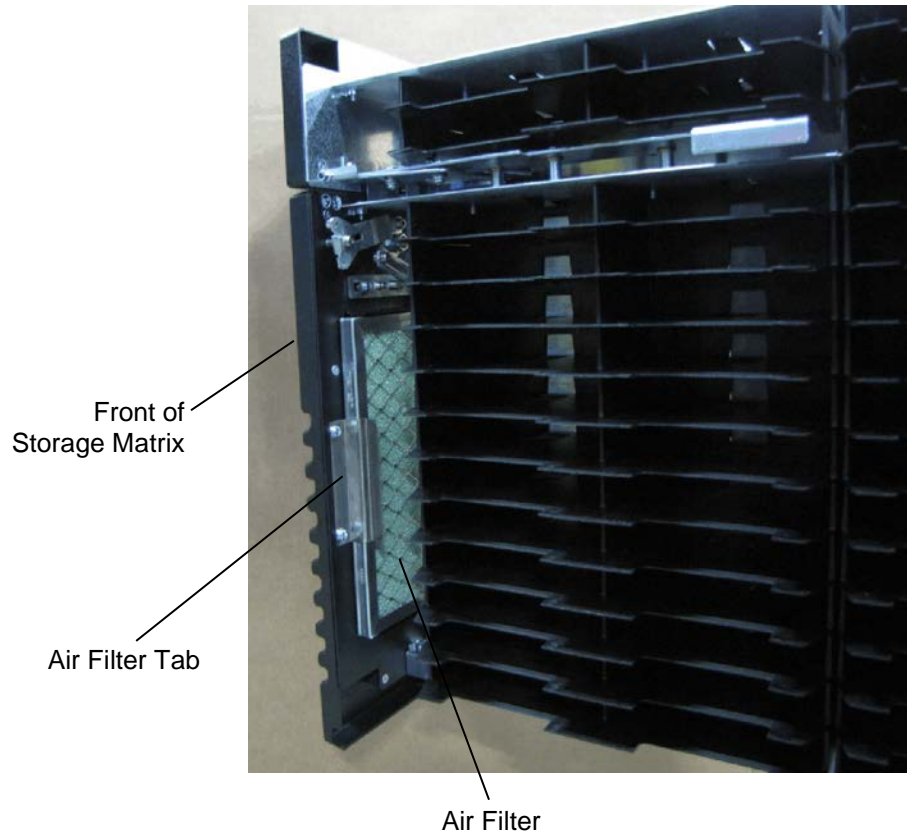
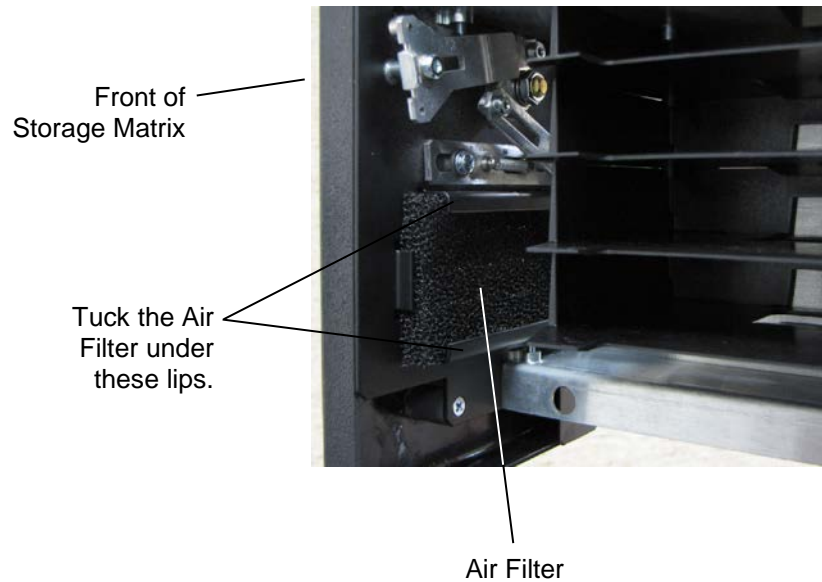

Figure 12-1 Air Filter with a Storage Matrix Open (RLS-85XX shown)
Figure 12-2 Air Filter with a Storage Matrix Open (RLS-8350 shown)
1. Visually inspect the air filter element in the front of each storage matrix (Figure 12-1 and Figure 12-2).